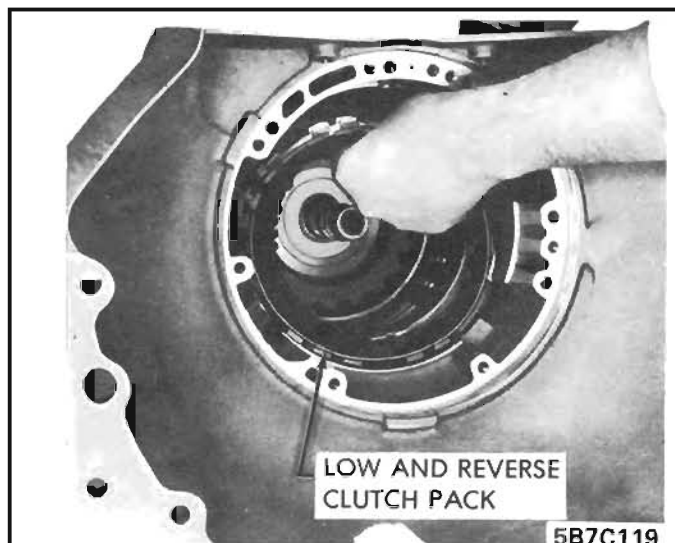

Figure 37 Low and Reverse Clutch Removal
1. Remove the low and reverse clutch composition plates and the steel separator plates. See Figure 37.